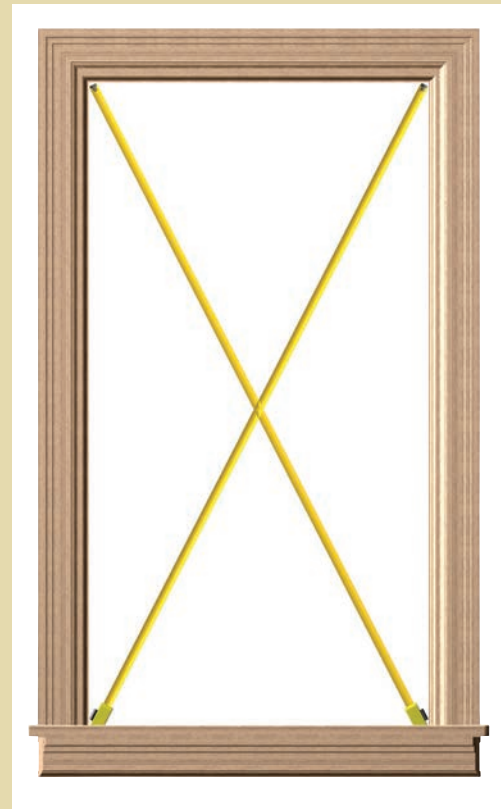

Figure 2 - Interior View
1. Check the opening for squareness. Measure diagonally from corner to corner, repeat for remaining corners (Figure 2). Measurements should be within 1/4" of each other. If the measurements are not similar, you will have to downsize the new unit accordingly in order to square the new unit in the existing frame.